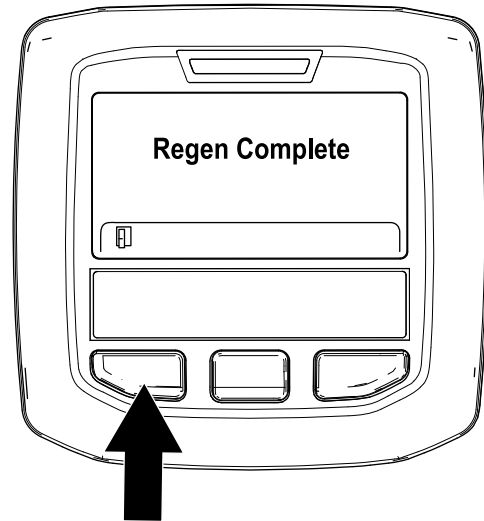

Figure 39
9. The parked regeneration is complete when the "Regen Complete" message displays in the InfoCenter. Press the left button to exit to the home screen (Figure 39).